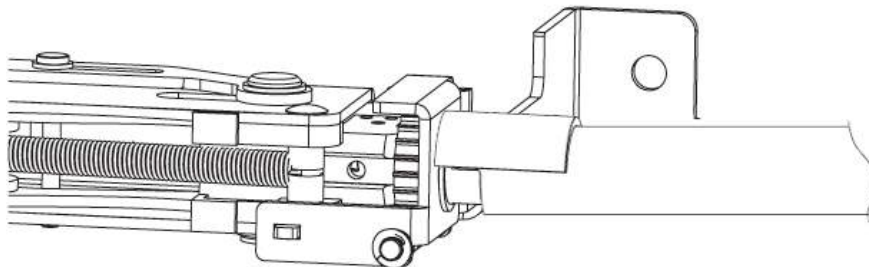

Figure 40
2. To align the hex of rod with the hex of the LBC gear, fit the rod guide tab into the LBC gear slot. Once aligned, push the rod assembly in until fully seated. (Figure 40)